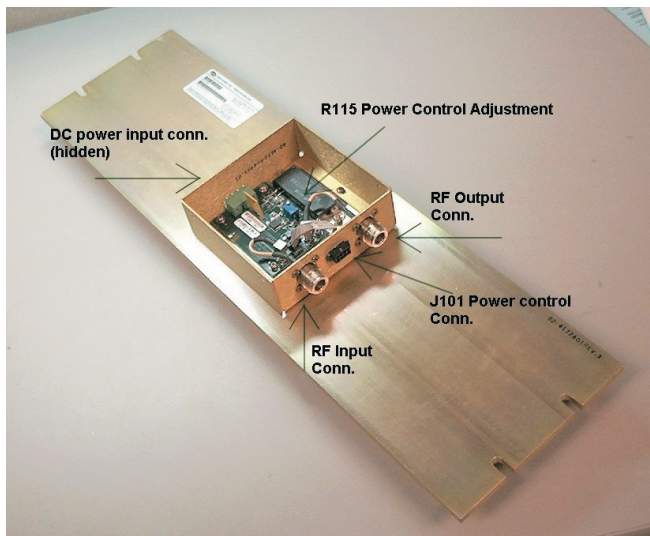

Figure 1. MDS eNETL2W RF Power Amplifier
The eNETL2W (Figure 1) is a 20-watt RF power amplifier designed for use in the 217–222 MHz frequency range. It is intended to serve as a 100% duty cycle amplifier for MDS entraNET 220 radio modules (ROR220) operating in point-to-multipoint repeater applications. The amplifier is designed to comply with FCC Part 90 and FCC Part 15 requirements.
3. If necessary, adjust R115 (see Figure 1) with an insulated flat blade tool to achieve the desired output level. Access to R115 is available through a top cover vent slot.